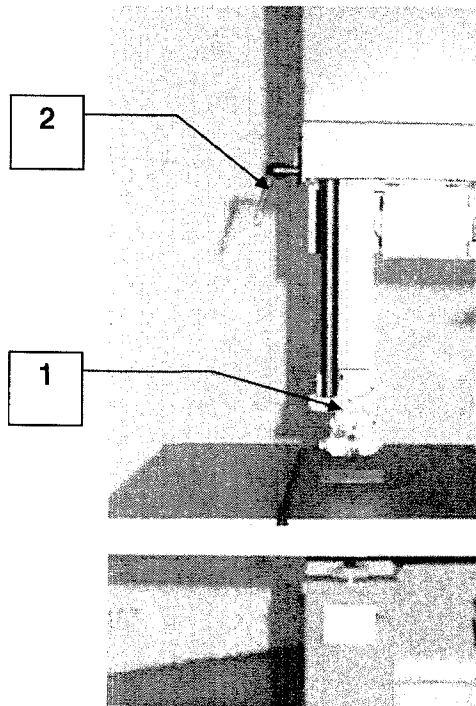

Figure 5.6
5.6 Adjusting the Height of the Top Saw Guide Unit (Figure 5.6)